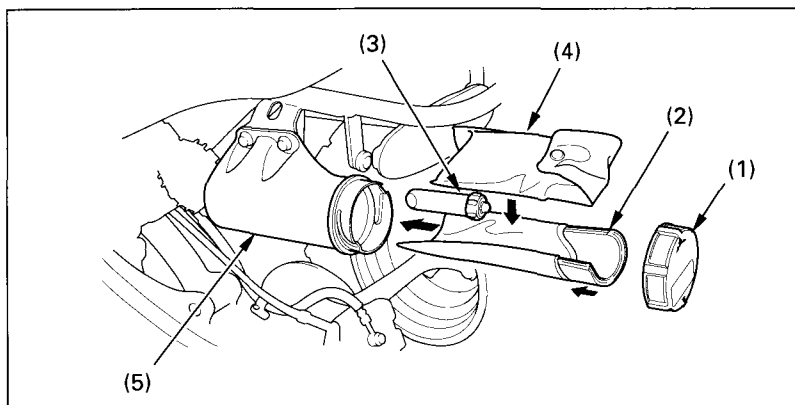

Fig. 2-22 (1) Compartment cover (2) Owner's manual (3) Tire pressure gauge (4) Tool kit (5) Storage compartment
The storage compartment (Fig. 2-22) is below the rear fender. Remove the compartment cover (1) to gain access to the compartment. The Owner's Manual (2), tire pressure gauge (3) and tool kit (4) should be stored in the storage compartment (5).